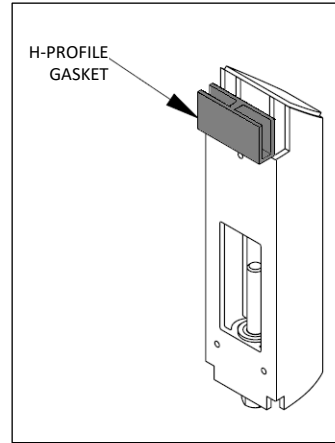

Fig. H6 – Rear glass spacer gasket
4. Install spacer gaskets in lower posts, see Figs. H6 and H7 for orientation. Bosses on spacer gasket for front glass should fit into post extrusion.